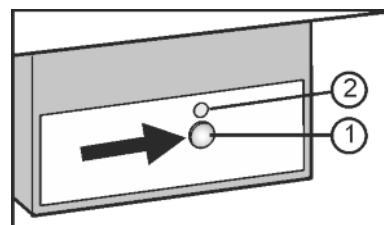

Fig. 17
- ▶ Press the On/Off button *Fig. 17 (1)* so that the LED *Fig. 17 (2)* shines.